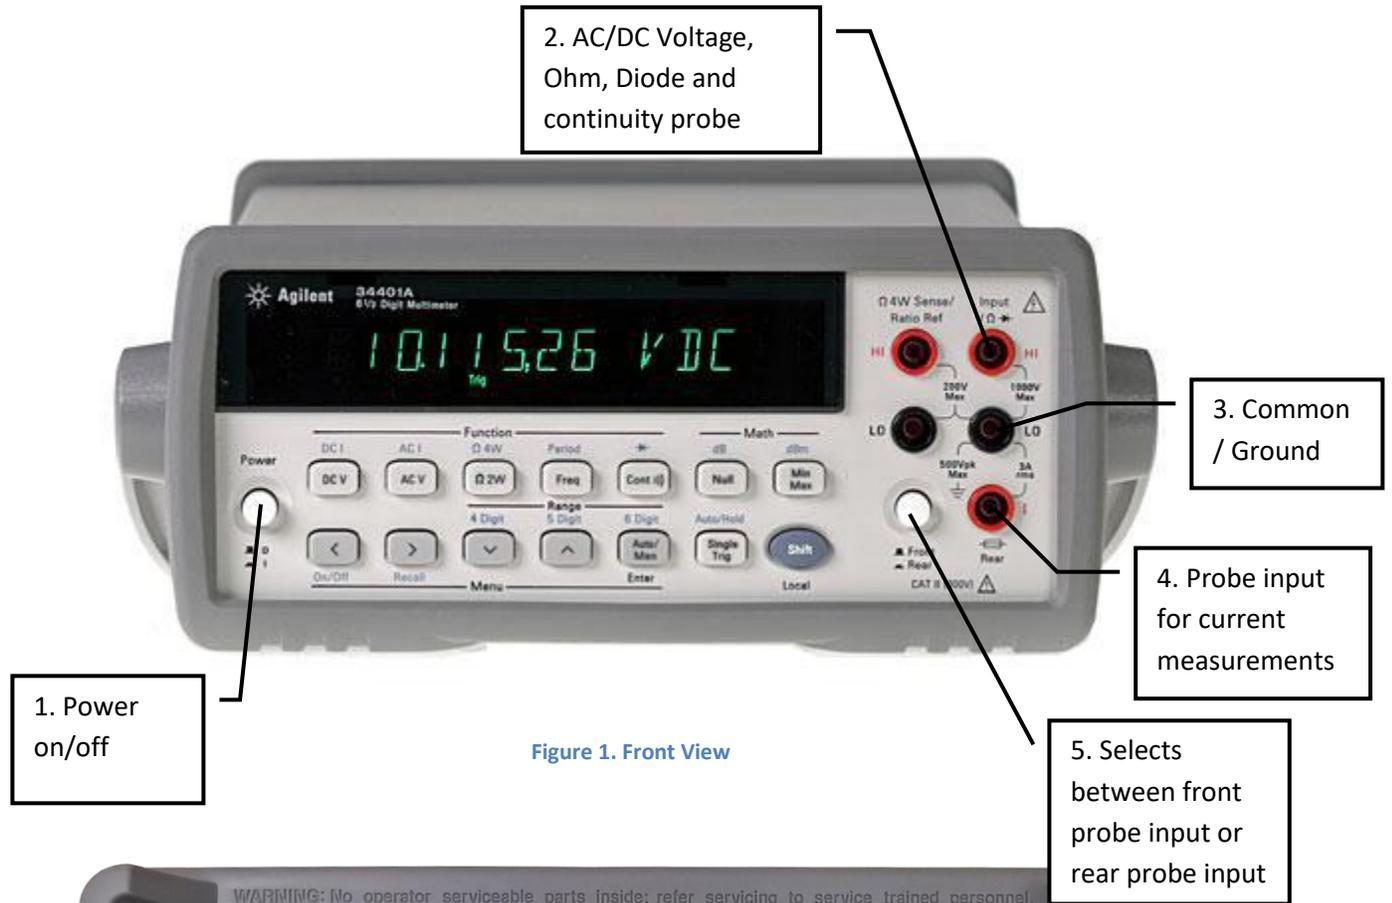

Figure 1. Front View
1. Turn on the Agilent 34401 DMM and confirm the rear / front selection button is set to front. (see Figure 1, item #5) Note: the DMM always starts with the selection measure DC Voltage. If VDC is not displayed on the DMM, press the [DC V] button now.
1. Turn on the Agilent 34401 DMM and confirm the rear / front selection button is set to front. (see Figure 1, item #5) Note: the DMM always starts with the selection measure DC Voltage. Press the [AC V] button now.
1. Turn on the Agilent 34401 DMM and confirm the rear / front selection button is set to front. (see Figure 1, item #5) Note: the DMM always starts with the selection measure DC Voltage. Press the [Cont] button now.
1. Turn on the Agilent 34401 DMM and confirm the rear / front selection button is set to front. (see Figure 1, item #5) Note: the DMM always starts with the selection measure DC Voltage. Press the  button now. The Greek letter Omega (Ω) is used in electronics to represent Ohms. So this button reads Ohms – 2 wire.
1. Turn on the Agilent 34401 DMM and confirm the rear / front selection button is set to front. (see Figure 1, item #5) Note: the DMM always starts with the selection measure DC Voltage.
1. Turn on the Agilent 34401 DMM and confirm the rear / front selection button is set to front. (see Figure 1, item #5) Note: the DMM always starts with the selection measure DC Voltage. Insert banana to alligator into the DMM ground and current inputs. (See Figure 8)